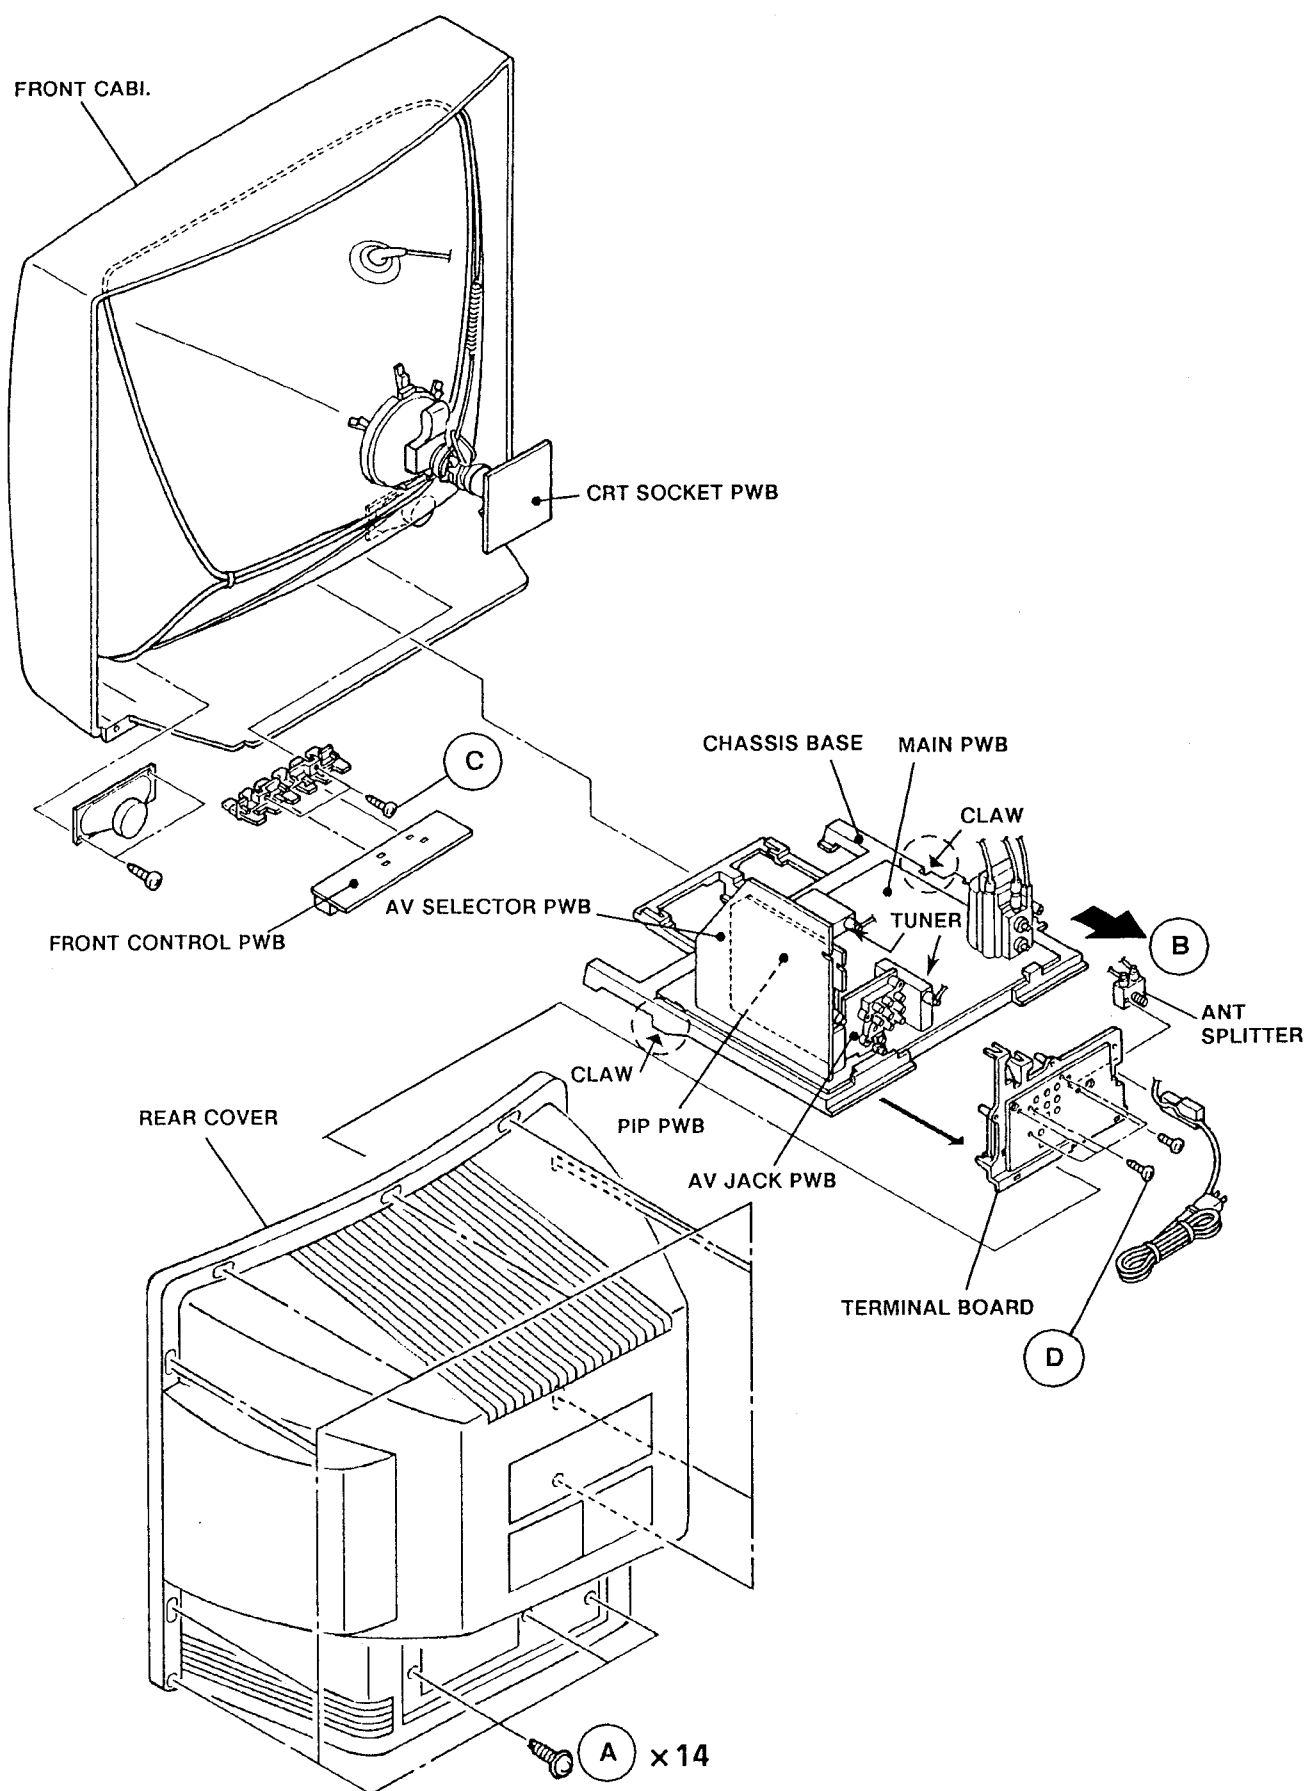

Fig. 2
2. Remove the 14 screws marked (A) as shown in Fig. 2.
2. Draw the chassis backward along the rail in the arrow direction marked (B) as shown in the Fig. 2.
1. Remove the 2 screws marked (C) as shown in Fig. 2.
1. Remove the 4 screws marked (D) as shown in Fig. 2.